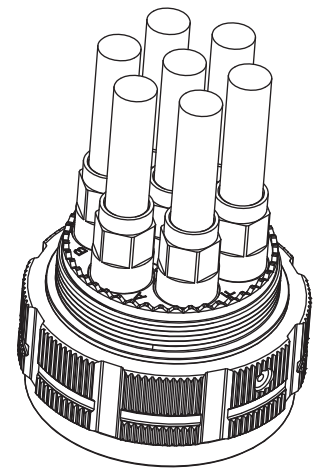

FIGURE 3
- C. Install remaining modules in the same manner (figure 3)